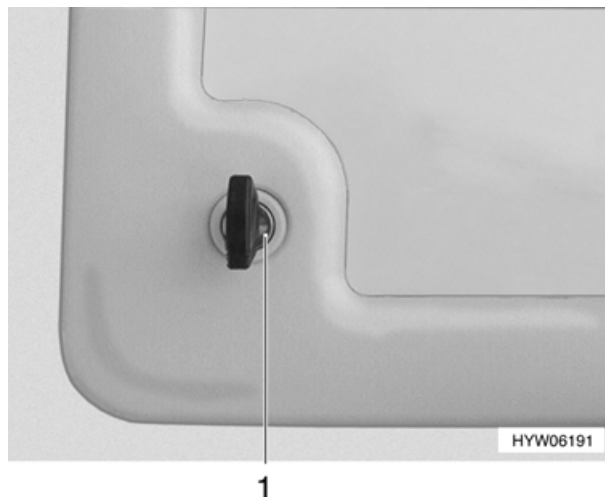

Fig. 17 Flap lock (variant 3)
- Insert key into locking cylinder (Fig. 17,1) of the push-button lock and turn a quarter turn in an anticlockwise direction.
- Insert key into locking cylinder (Fig. 17,1) and turn a quarter turn in a clockwise direction.